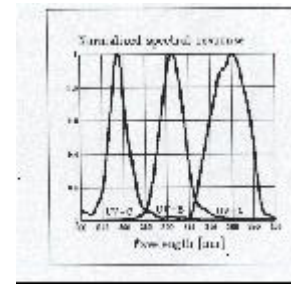

Fig. 4
**Spectral response** : As indicated in Fig. 4 (nominal values).